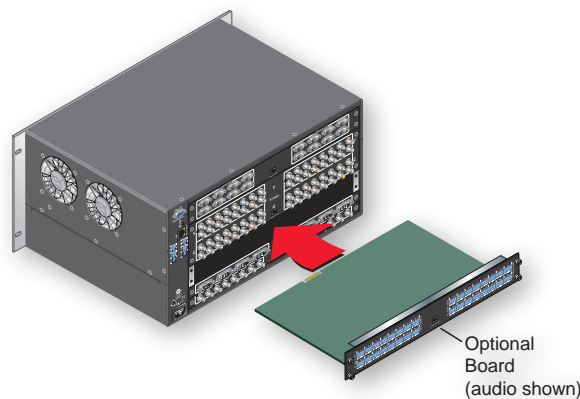

Figure 4. SMX Frame Rear Showing Board Installation
2. When ready, remove the board from the anti-static bag, taking care not to touch any of the components on the board. Slide the board into the open rear slot (see figure 4), carefully aligning it with the plastic slides in the frame. Push the board firmly into place.